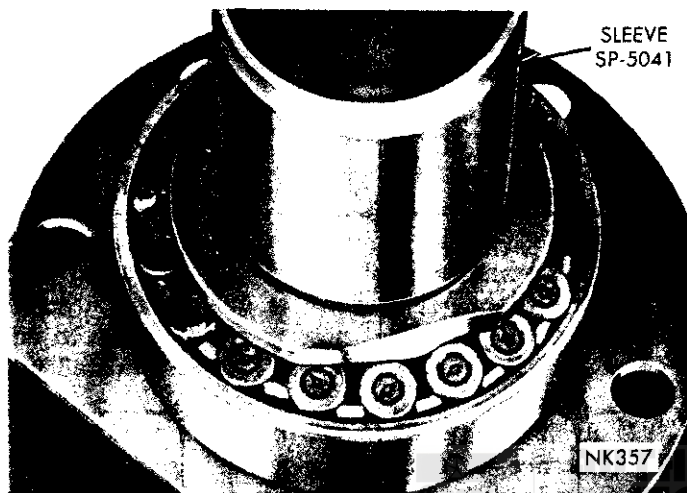
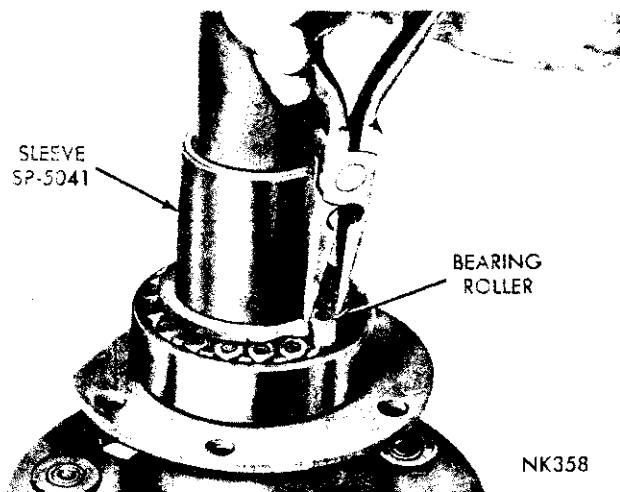

Fig. 8—Flange Ground Off Inner Cone
Fig. 9—Removing Bearing Rollers
(3) Grind a section off flange of inner bearing cone (Fig. 8) and remove bearing rollers (Fig. 9).